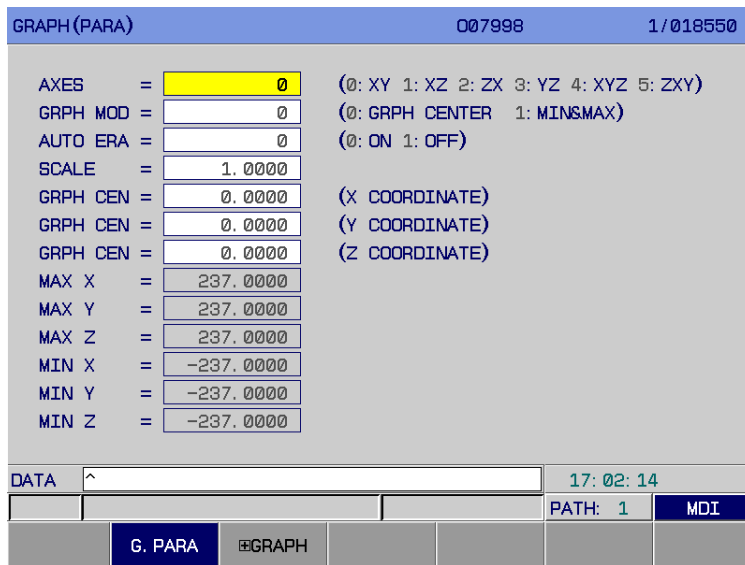

Fig. 3-5-1
Enter the figure page by . There are two display interfaces **【FIGURE PARAMETER】** and **【FIGURE】**, which can be displayed by its corresponding softkey. Refer to the following figure (Fig. 3-5-1):
1) Figure parameter interface Enter the figure interface by**【FIGURE PARAMETER】**, refer to the Fig. 3-5-1.